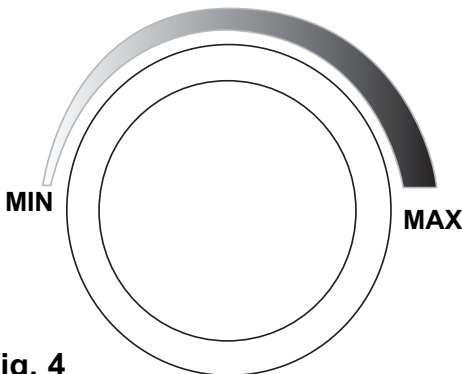

Fig. 4
- Your refrigerator has one vent control for regulating the temperature in the freezer compartment (See Fig.4.). The temperature control is located on the center of the freezer compartment's interior back panel.